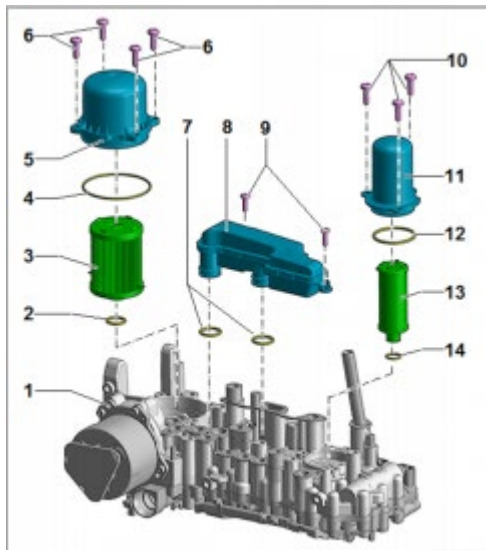
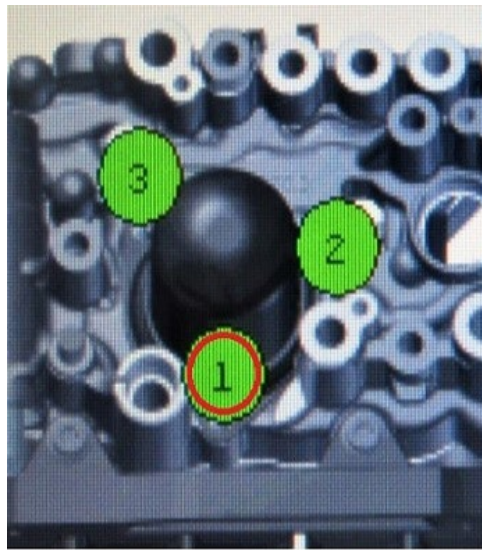

Figure 2. Mechatronics parts.
Figure 3. Bolt locations.
3. After removing the Mechatronics unit perform a visual inspection of the installation of the bolts for pressure filter 2 (Figure 2, Position 10 and 11) this is the smaller of the 2 canister filters installed to the mechatronics unit with 3 bolts attaching the filter to the unit (Figure 3).